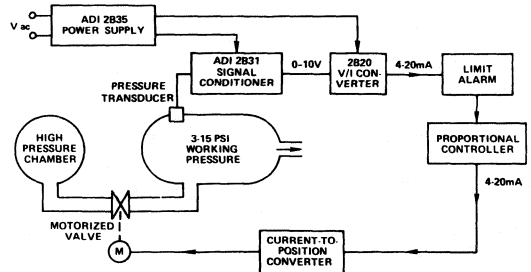

Figure 9. Proportional Pressure Control System
**Pressure Control System:** In Figure 9, model 2B20 is used in a proportional pressure control system. The 3-15psi working pressure of a system is monitored with a pressure transducer interfaced by the model 2B31 signal conditioner. The high level voltage output of the 2B31 is converted to a 4 to 20mA to provide signal to the limit alarm and proportional control circuitry. A current-to-position converter controlling a motorized valve completes the pressure-control loop.